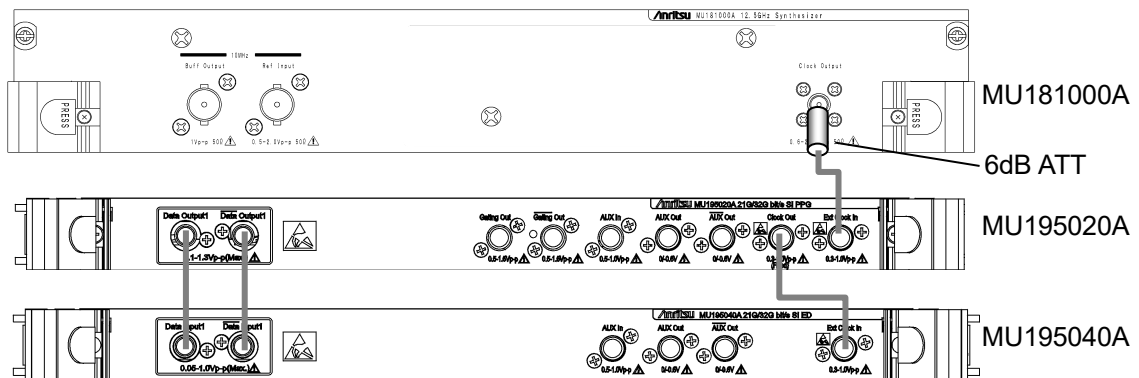

Figure 8.3.1-1 Connection diagram for operating frequency range test
4. Connect the measuring instrument cables as shown in Figure 8.3.1-1.
6. After warming up the instruments, enable the MP1900A signal output (ON) to output signals from the MU195020A.
Refer to Figure 8.3.1-1 for the device connection.